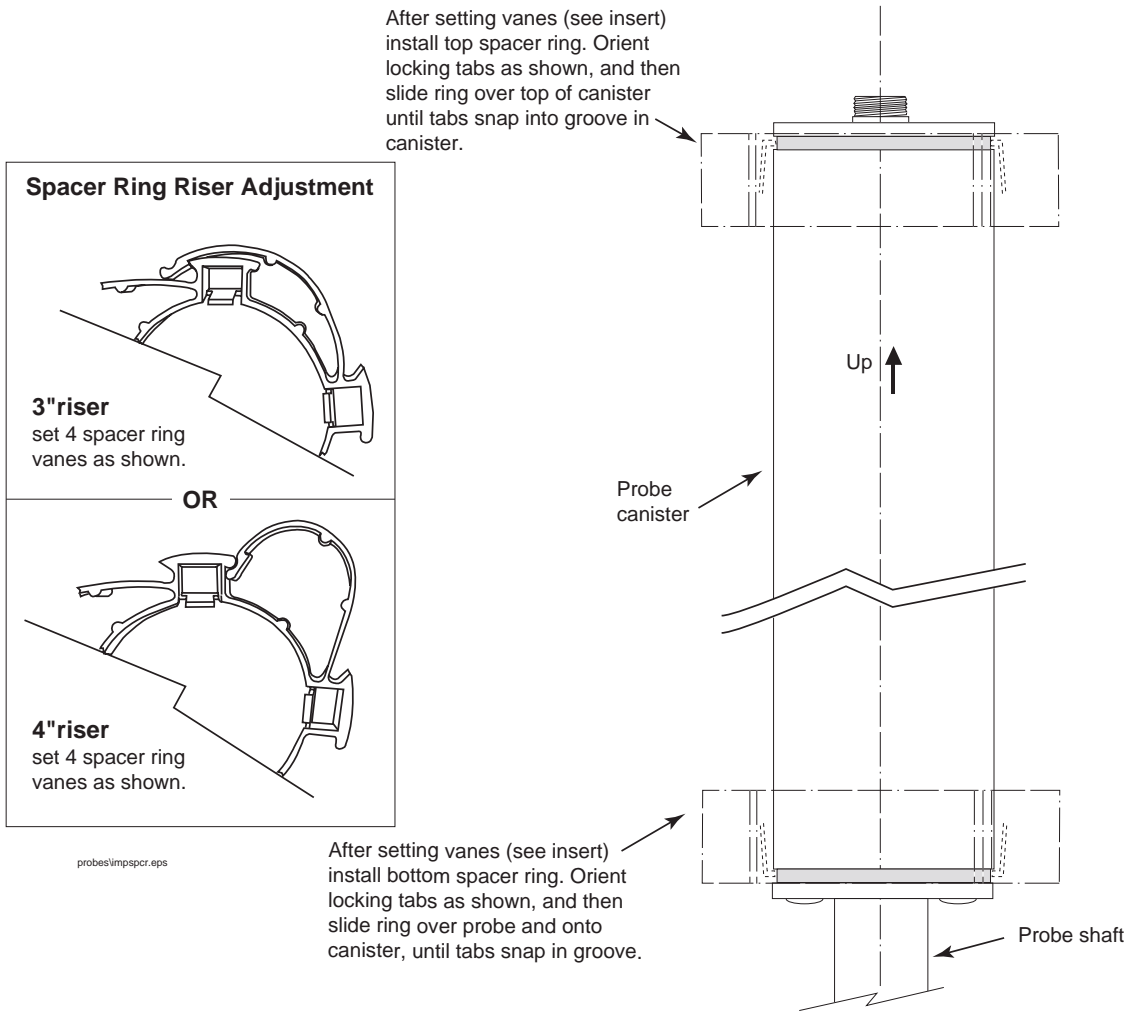

Figure 4. Installing Probe Canister Spacer Rings
| Figure 4. Installing Probe Canister Spacer Rings .....                                   | 5 |
2. Set the spacer vanes for a 3- or 4-inch riser (see Figure 4) as required. Install the two spacer rings onto the probe canister as shown in the figure below. Note: you must slide the bottom spacer over the probe and onto the lower end of the canister.